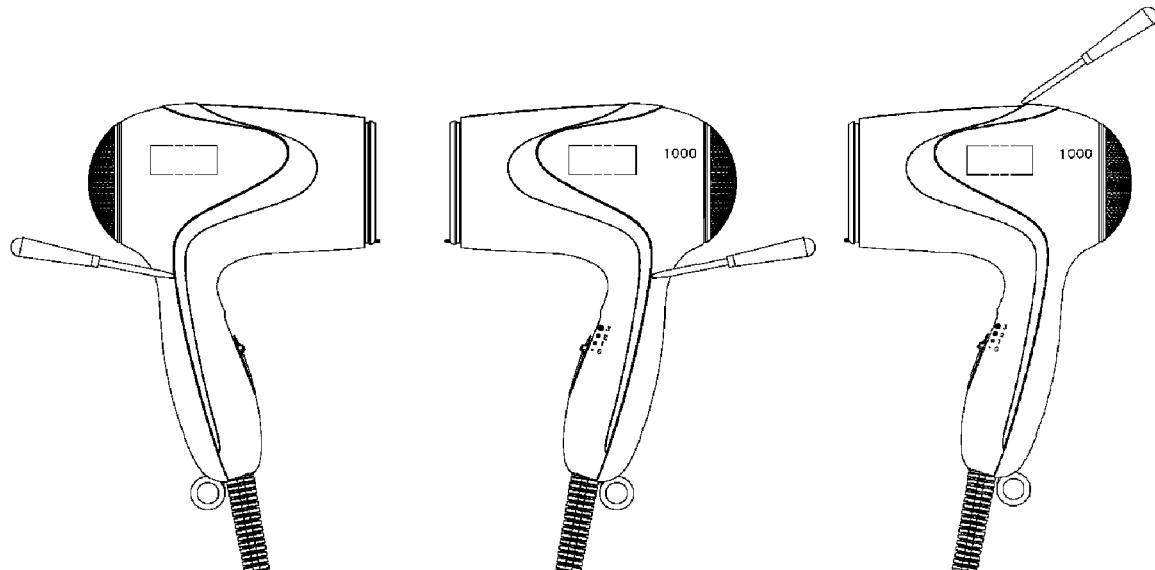

Figure 2
2. Remove 3 hooks of Housing B from Housing A by using flared tip screw driver as shown in Figure 2.